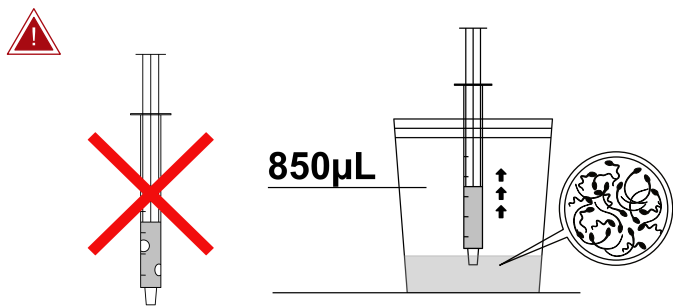

Figure 1. Draw 850 $\mu$ L of the sample.
4. Take approximately 850  $\mu$ L of semen sample from the sample container with the help of an injector. Be careful not to get air bubbles into the syringe while taking samples due to its dense structure. These air bubbles will cause volume loss and affect the performance of the product (Figure 1).